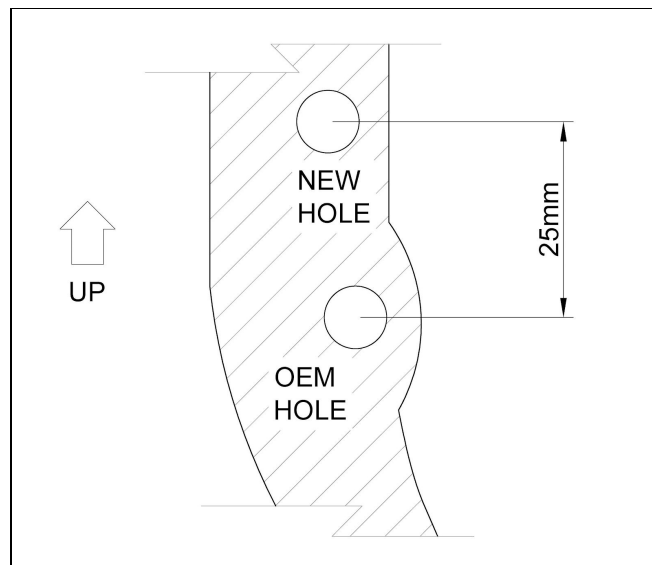

Figure 1: Location of hole to be drilled in pedal
- 10) Using the included "figure 8" shaped drill template drill a 8mm diameter hole in the brake pedal 25mm (1") further up than the original hole, see Figure 1 below. Using the supplied nut and bolt, bolt the drill template through the original 8m hole, align the edge of the template nearest the small diameter 3mm hole with the edge of the pedal. The new hole can now be drilled through the 3mm hole in the template.